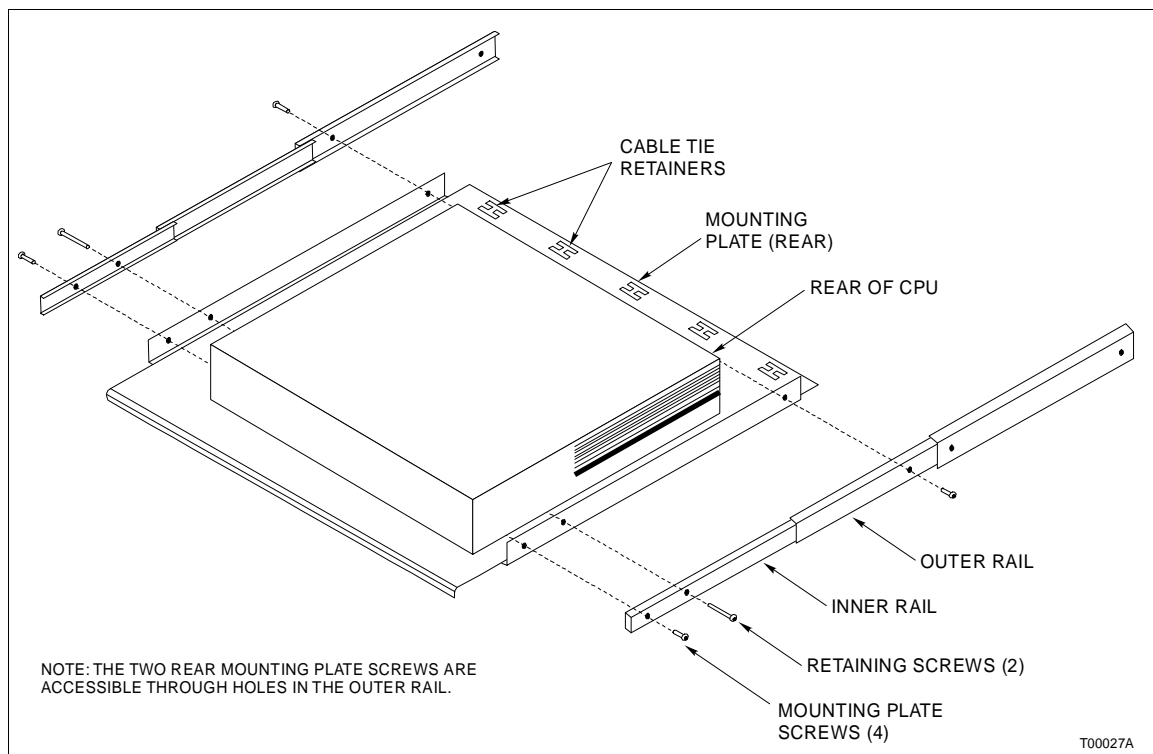

Figure PR23-1. CPU Installation
1. Place the CPU in the rear of the base pedestal so that the front holes on the mounting plate align with the front holes in the inner rail (Fig. PR23-1).